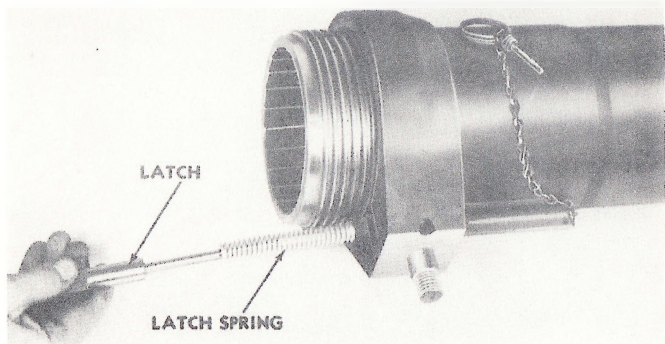

Fig. 22. Removing latch and latch spring.
d. Retainer spring. To remove retainer spring, remove chamber releasing lever, as described in b above, and slide out latch and spring (fig. 22). To replace spring, insert into retainer, and insert the latch and replace releasing lever.